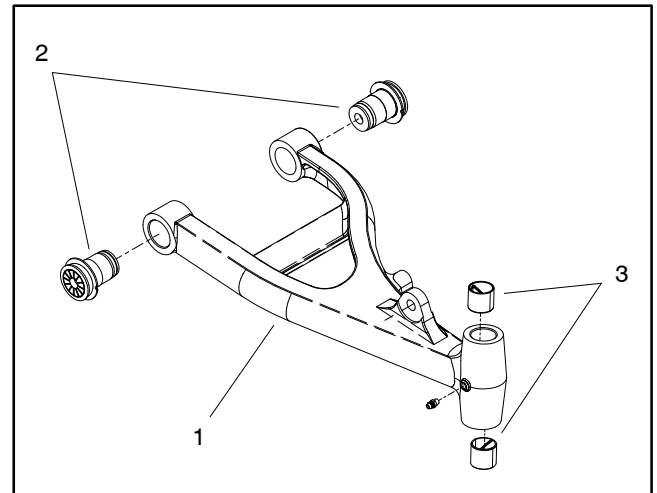

Figure 20
4. Remove cap screw (item 7), flat washer (item 5) and lock nut (item 6) that secure lower end of shock absorber to A-arm.
6. Remove both cap screws (item 19) and lock nuts (item 6) that secure A-arm to frame. Pull A-arm from frame.
7. If necessary, remove flange bushings and straight bushings from A-arm bores (Fig. 20).
1. If bushings were removed from A-arm, press new bushings fully into bore of A-arm (Fig. 20).
2. Position A-arm to the frame. Secure A-arm to the frame with cap screws (item 19) and lock nuts (item 6). Insert front screw from front of machine and rear screw from rear of machine. Do not fully tighten nuts.
3. Position lower end of shock absorber to A-arm and insert cap screw (item 7) with flat washer (item 5) from rear of shock. Secure with lock nut (item 6).
4. Fully tighten lock nuts (item 6) to secure A-arm to machine frame.